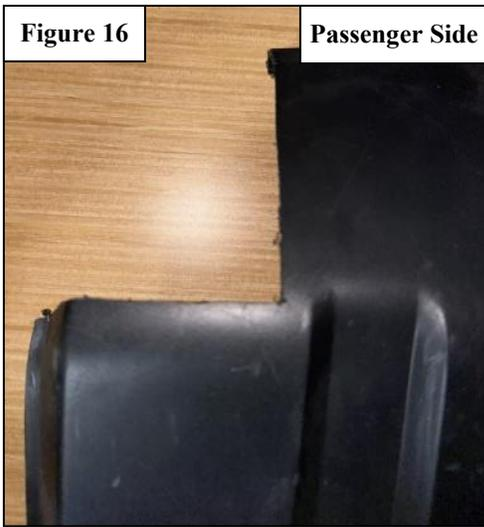

Figure 16
18. Trim the bottom piece of the bumper. It should measure 2.25" wide and 4" tall. See **Figure 14 & 15** for reference. See **Figure 16 & 17** to see how the bottom piece of the bumper should look.